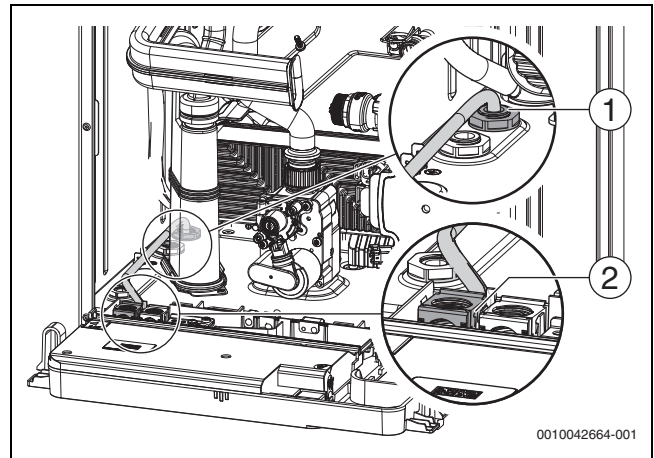

Fig. 50 Mains supply cable routing
- ▶ Mains supply cable must be routed through either of the rubber grommets in the frame assembly at the left-hand rear of the appliance → Figure 50.